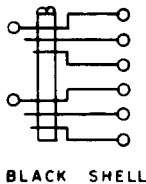

Fig. 6—380A Plug
2.06 380A: The 380A (Fig. 6) is a twin, 3-conductor plug that is used with the No. 50 jack in the 176 jack mountings in the No. 1 Teletypewriter Switchboard Service Observing Desk. The 380A plug replaces the D-157427 plug.